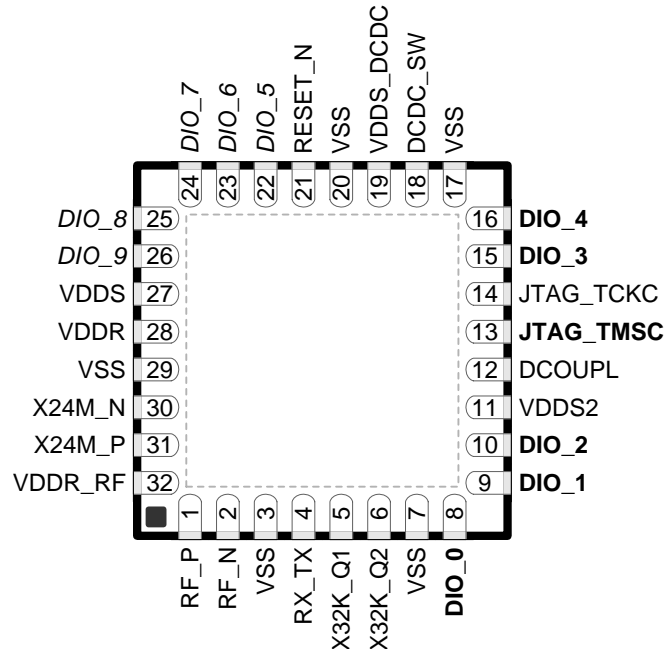

Figure 4-1. RSM (4-mm × 4-mm) Pinout, 0.4-mm Pitch
• Added <a href="#">Figure 4-1</a> .....	7
Figure 4-1 shows the RSM pinout diagram.
I/O pins marked in Figure 4-1 in **bold** have high-drive capabilities; they are as follows:
I/O pins marked in Figure 4-1 in *italics* have analog capabilities; they are as follows: